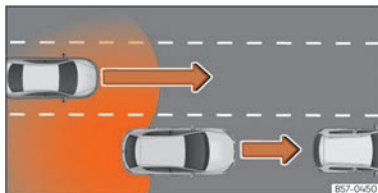

Fig. 117 Overtaking with traffic behind the vehicle.
- When being overtaken by another vehicle »» **Fig. 117**.